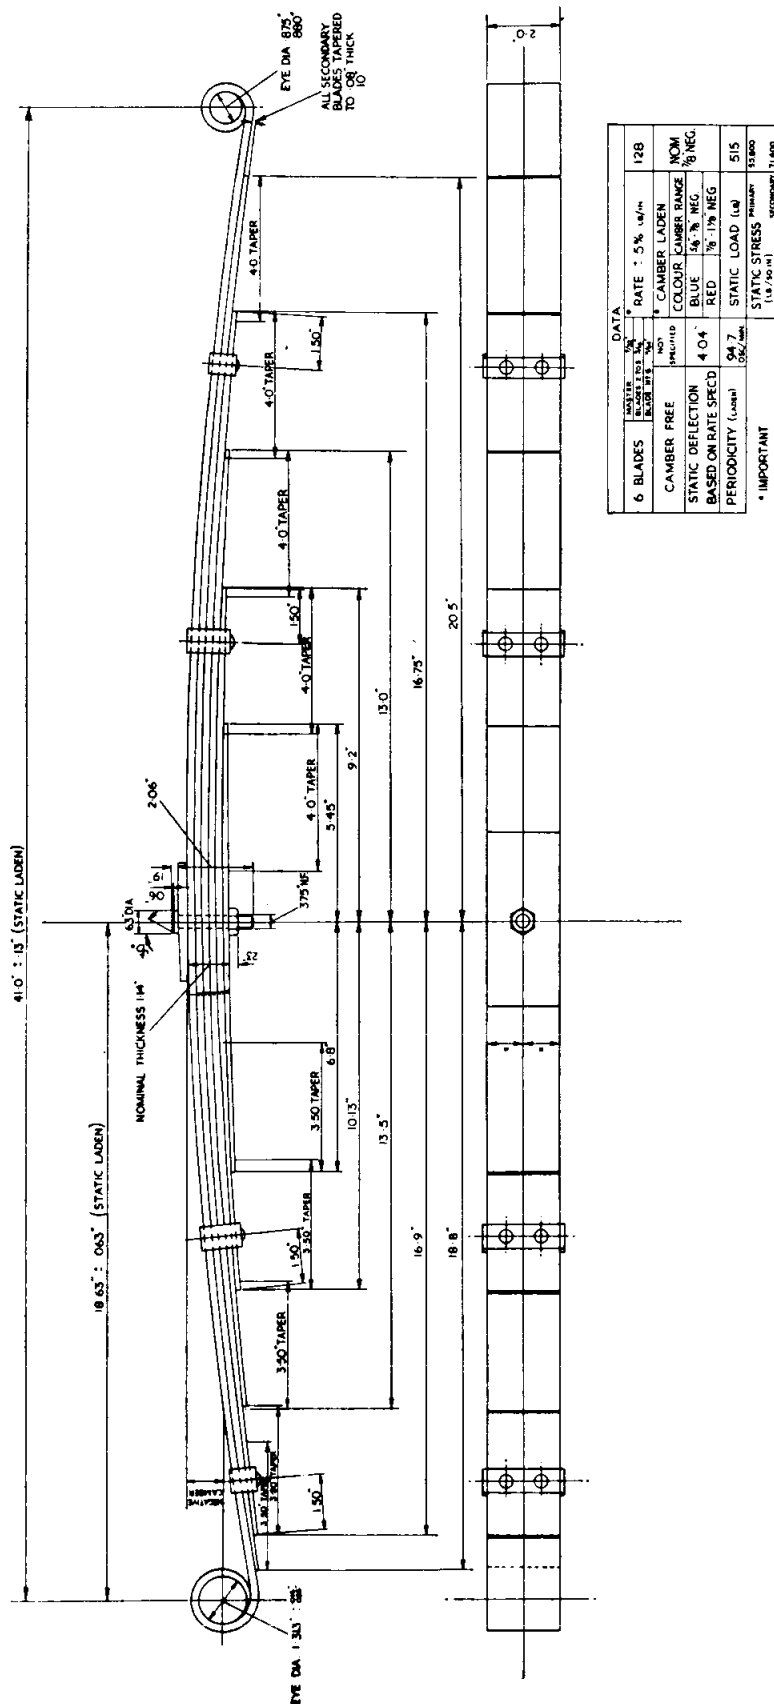

Fig. 2
1. DESCRIPTION (Fig. 2)
The spring, on being removed from the chassis, should be laid on a surface plate and measured, the measurements taken should be compared with those given in Fig. 2 and a decision made as to its condition.